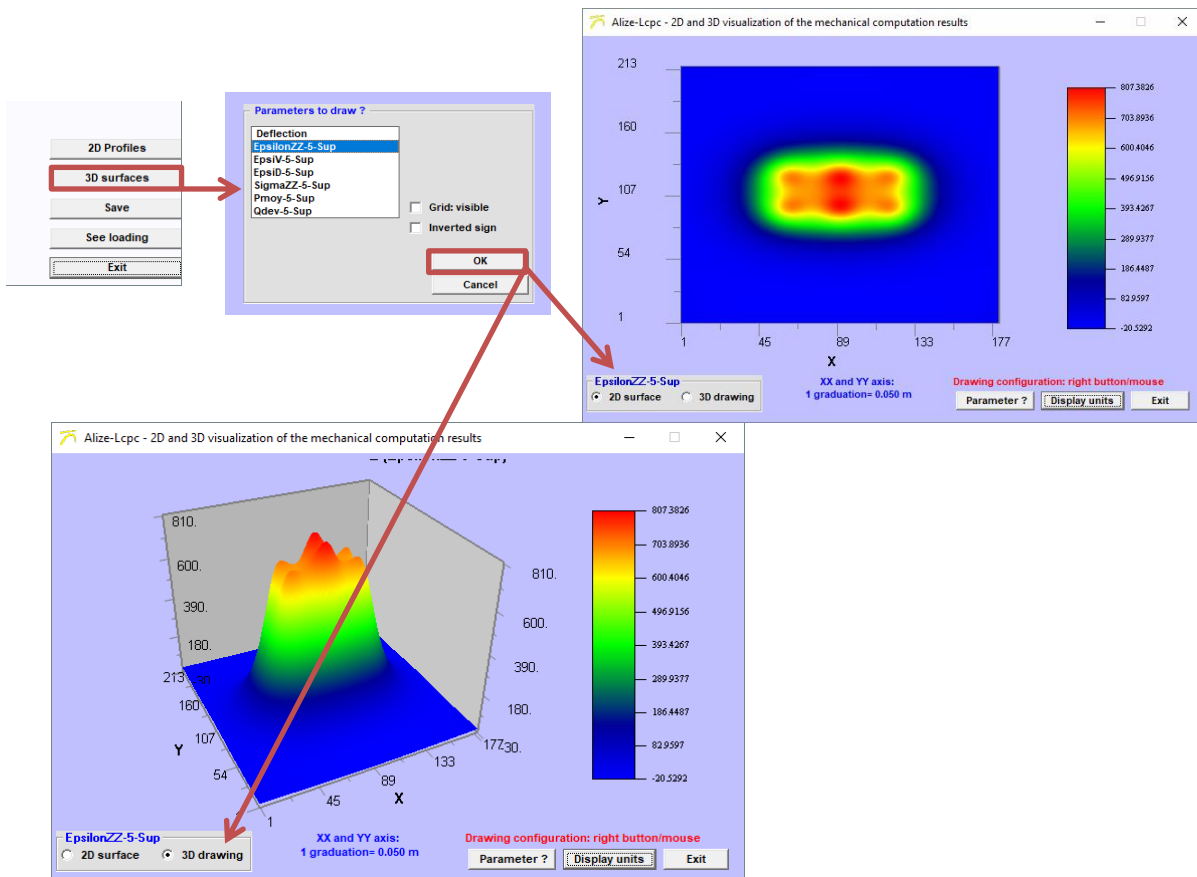

Figure 40. Display of 2D surfaces or 3D drawing
- To have a 3D representation, check the "3D Drawing" box (Figure 40).